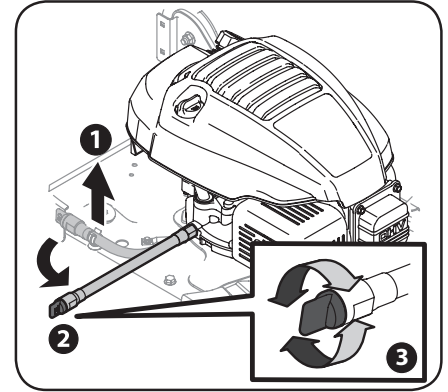

Figure 4-3
Each of the front wheel axles and casters is equipped with a grease fitting. See Figure 4-3. Lubricate with a No. 2 multi-purpose grease applied with a grease gun after every 25 hours of mower operation or once a season.
1. Pull up the oil drain hose to release it from the deck. See Figure 4-3 for MTD engine and Figure 4-4 for Briggs & Stratton engine.
3. Unscrew the cap on the end of the oil drain hose to begin draining oil. See Figure 4-3 inset.